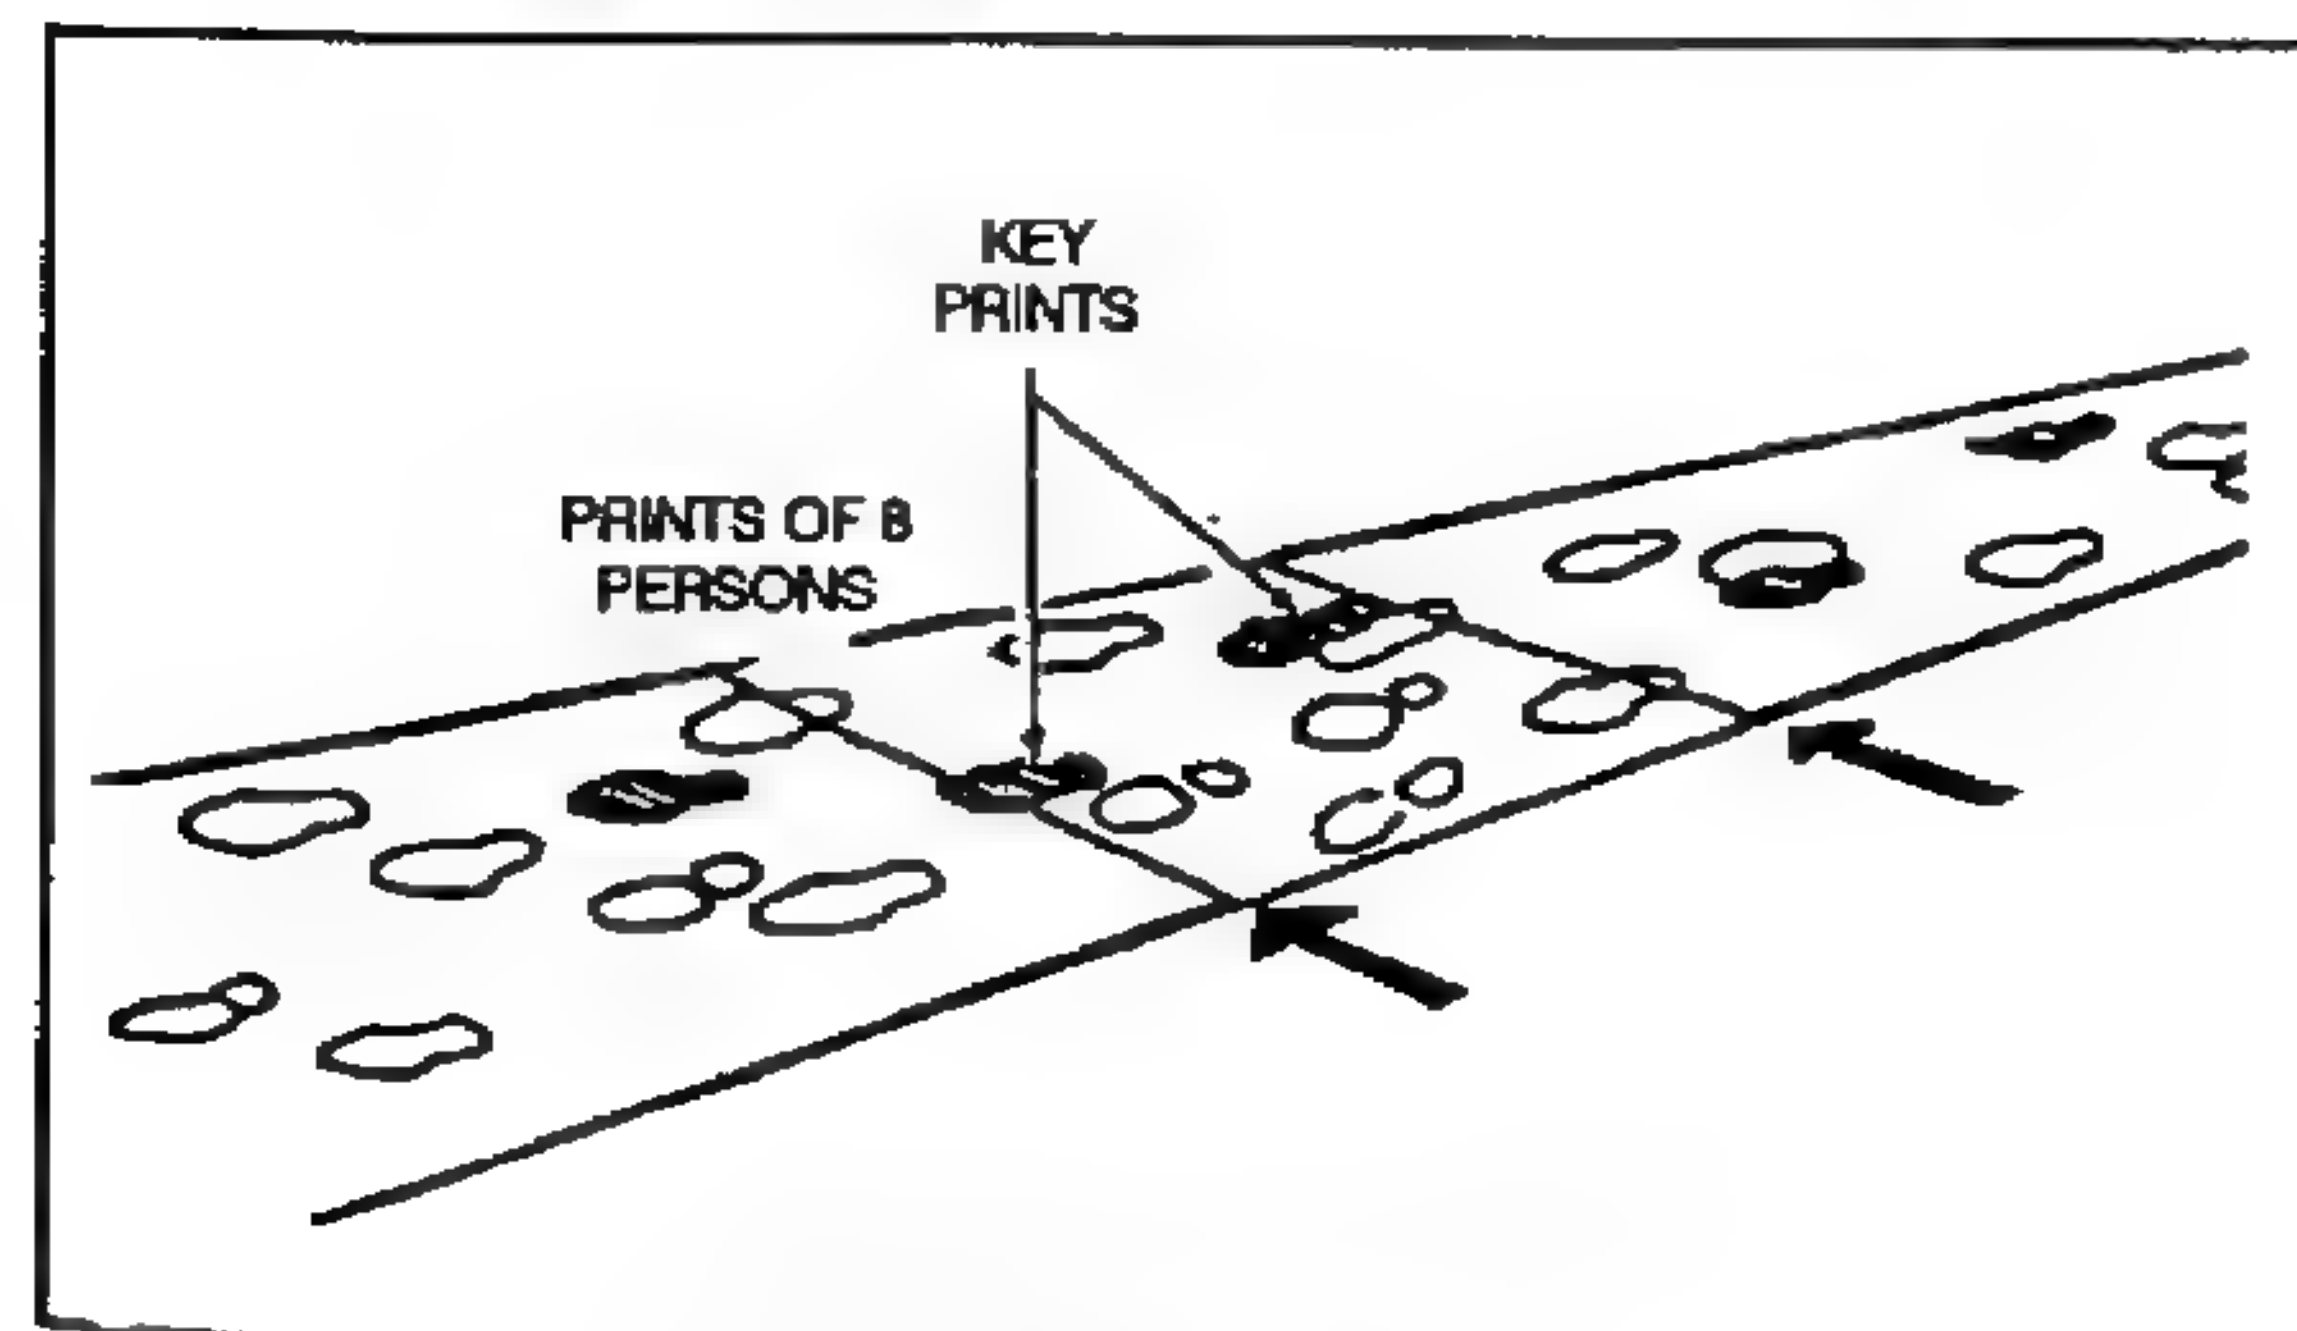

Figure 8-2. Stride measurement.
(1) The most accurate is to use the stride as a unit of measure (Figure 8-2) when key prints can be determined. The sniper uses the set of key prints and the edges of the road or trail to box in an area to analyze. This method is accurate under the right conditions for counting up to 18 persons.